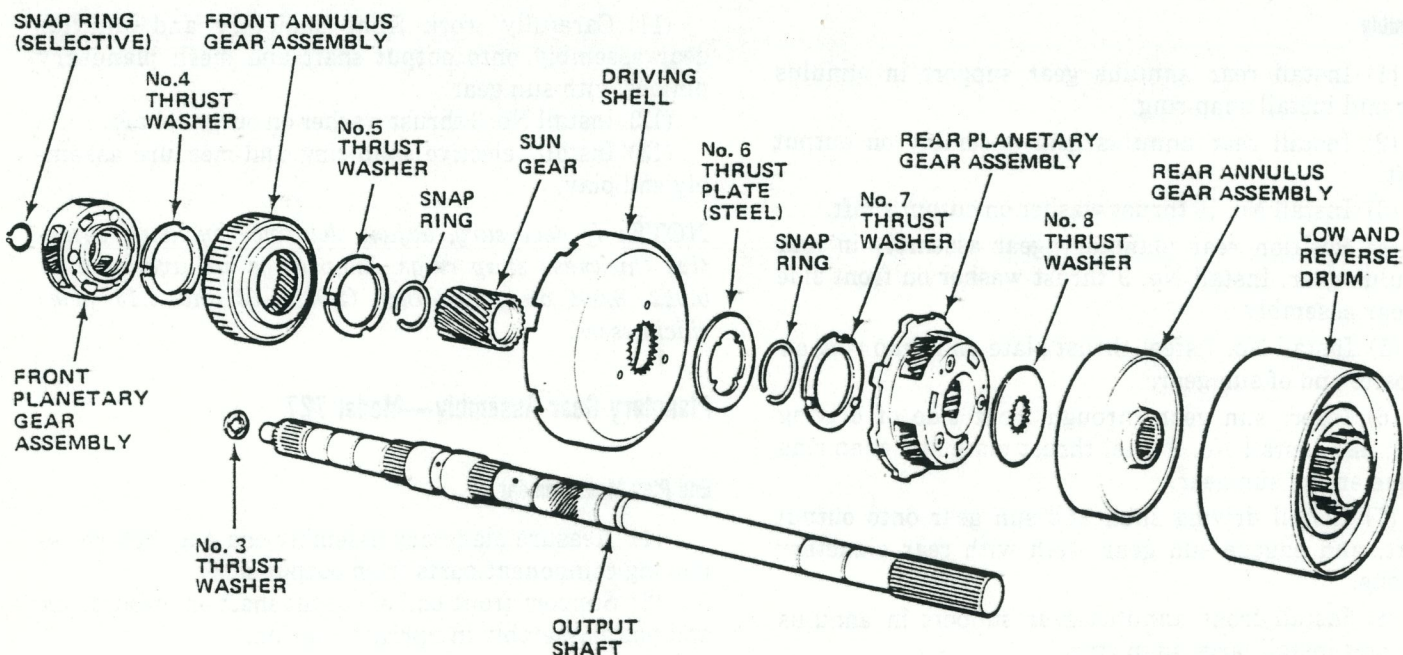

Fig. 2C-87 Planetary Gear Assembly—Model 727
(1) Install rear annulus gear on output shaft (fig. 2C-87).
(2) Apply thin coat of petroleum jelly on No. 8 thrust plate.
(3) Position plate on output shaft and in rear annulus gear.